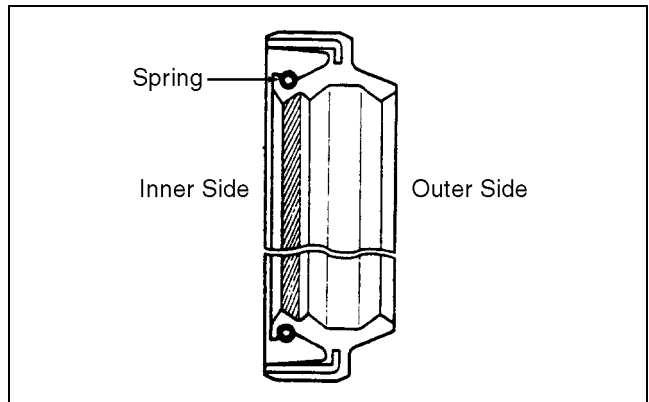

Figure 4G-33. Extension Case Oil Seal
2. Refer to Figure 4G-3, install the extension case and torque mounting bolts to 13.5 to 20.0 ft-lbs. (18 to 28 N.m).